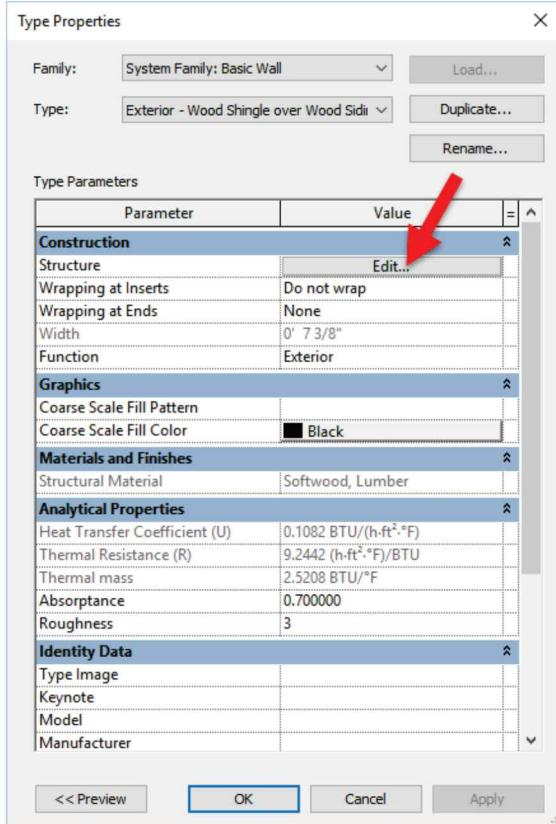

FIGURE 5-2.11 Type Properties
21. You should be in the *Type Properties* dialog box (Figure 5-2.11).
25. Click the **Duplicate** button (Figure 5-2.11).